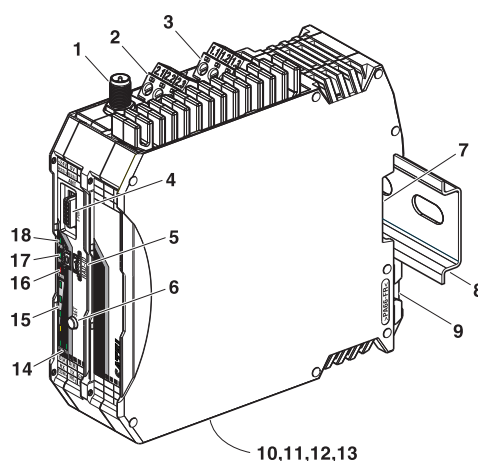

Figure 4-1 SATEL-LP9 structure
- Connect the single wires of the data cable to the plug-in screw terminal block (Figure 4-1, item 10).